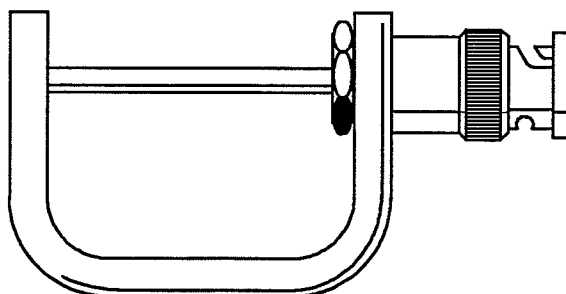

Figure 1-3 – Current Loop Adapter
- **Current Loop Adapter** (Tektronix part number 015-0601-00) – converts the voltage calibration output of 11000 and DSA Series Mainframes into a current source for calibrating 11A16-compatible current probes. The Current Loop Adapter has a connection bar to directly accept the measuring head of most Tektronix current probes. (See Fig. 1-3.)